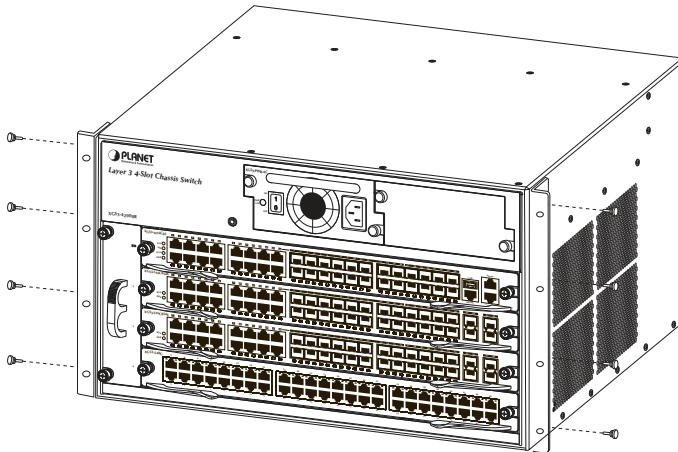

Figure 3-1 Installing XGS3-42000R Rack-mounting Brackets
- Step 2** Attach a rack-mount bracket to each side of the XGS3-42000R with supplied screws found in the package. Figure 3-1 shows how to attach brackets to one side of the XGS3-42000R.